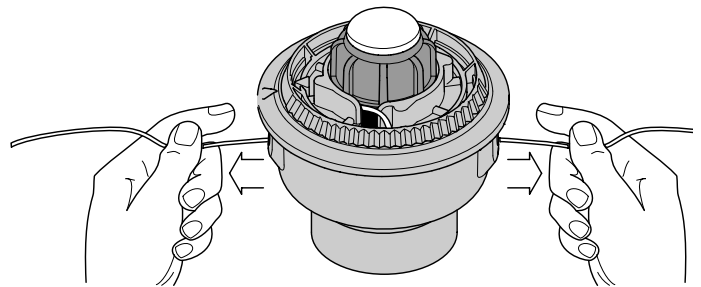

Fig. 45
9. If winding the line becomes difficult or if the line jams, pull the ends of the line from the spool (Fig. 45). Continue winding the inner reel counterclockwise.
If the SpeedSpool® does not release line correctly, pull the ends of the line firmly from the spool (Fig. 45). If this does not release the line, follow the *Cleaning the SpeedSpool®* instructions.